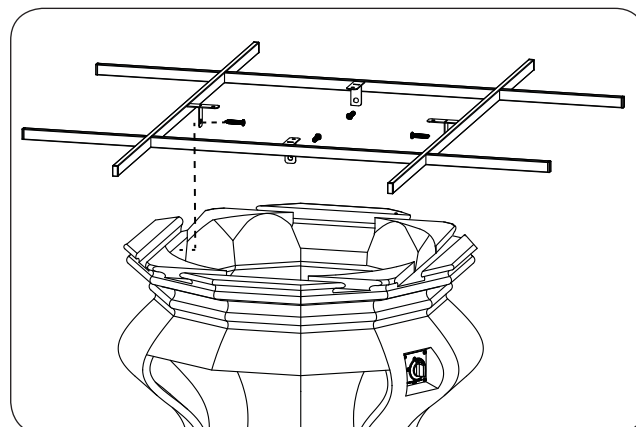

Fig. 20-2 Install bracket
3. Place the bracket in the grooves found on the top of the base. Then use a Phillips screwdriver and the supplied concrete screws (4) to fasten the bracket into the base as shown in Fig. 20-2.